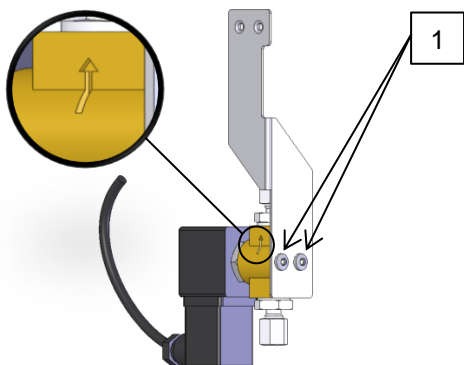

Fig. 3: Mount solenoid valve (YV 1)
- Mount 2x screws (Label 1 → Fig. 3).